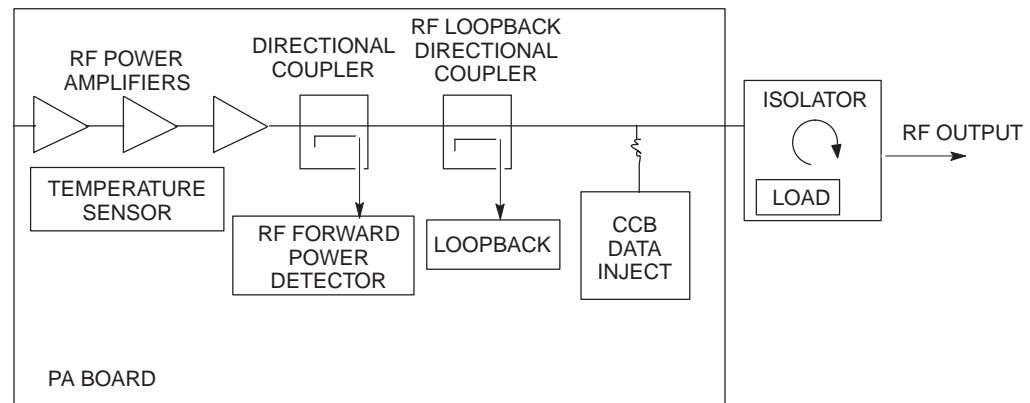

Figure 5-8 Power amplifier board functional diagram
Figure 5-8 shows a functional diagram of the power amplifier (PA). The PA board provides amplification and a forward power detector. The isolator protects the PA board amplifiers. The detected output is used to adjust the final CTU RF power output level by the digital sections of the XCVR.